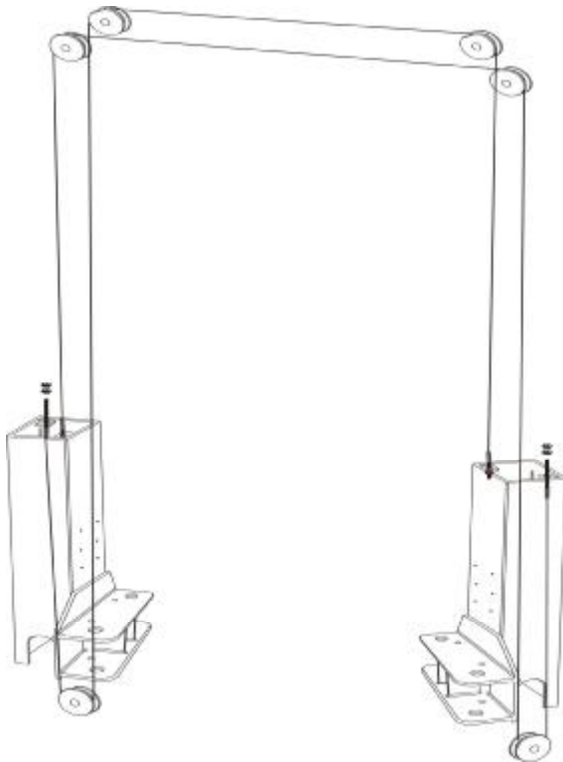

Fig.9
- I Raise the two carriages to the safety locking position (make sure that the safety locks on each column are fully engaged before attempting to install cables), and two carriages are in equal position from the floor (same height). Install the two steel cables as shown in Fig. 9.